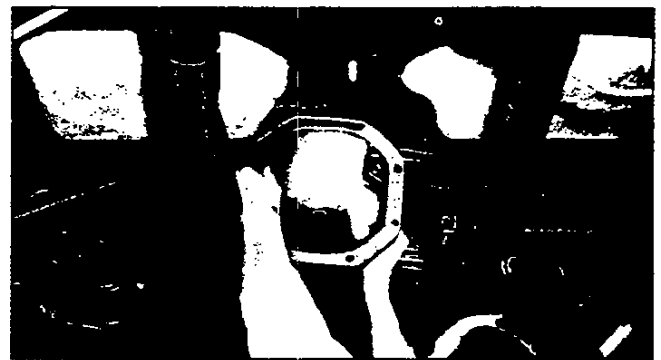

Fig. 30—Removing Crossmember
3. Support crossmember, remove bolts securing crossmember isolation mounts to frame and lower crossmember (fig. 30).